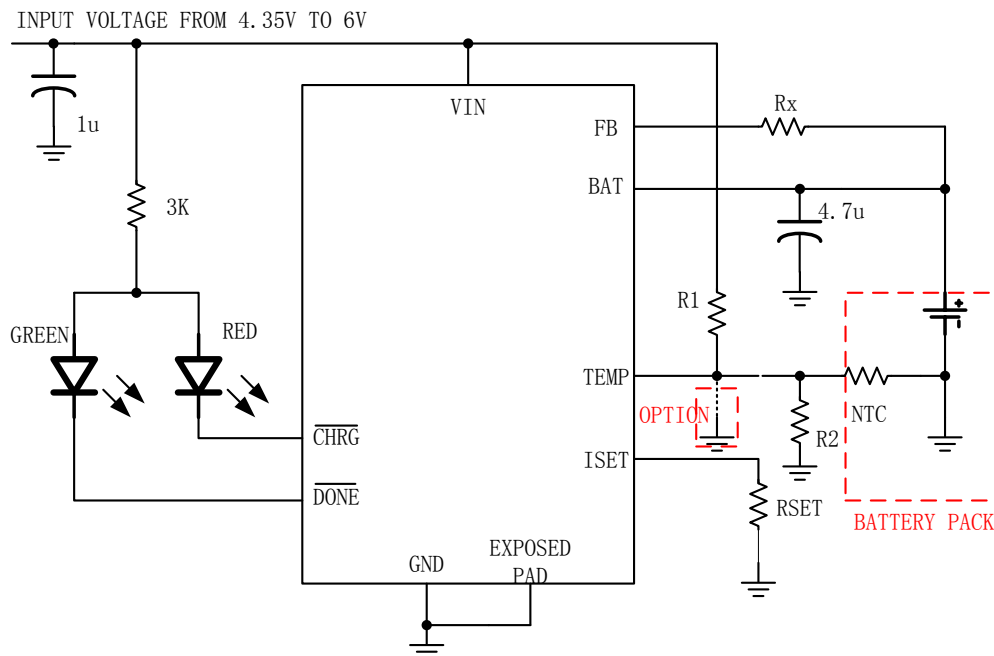

Figure 3.
If connect a resistor between the XT2051 battery voltage Kelvin test input pin (FB) and the positive battery , it can increase the battery charging voltage, as shown in Figure 3, then the positive battery voltage Vbat is:
XT2051 can not only use USB interface to charge the battery, users can also use a wall adapter to charge the battery. Figure 3 shows the same time using the USB interface and the AC adapter to charge the battery through the XT2051 .when the two co-exist, the AC adapter has priority. M1 is the P-channel MOSFET, M1 is used to prevent current from a wall adapter into the USB interface, USB interface, Schottky diode D1 prevents the consumption of energy through the 1K resistor.